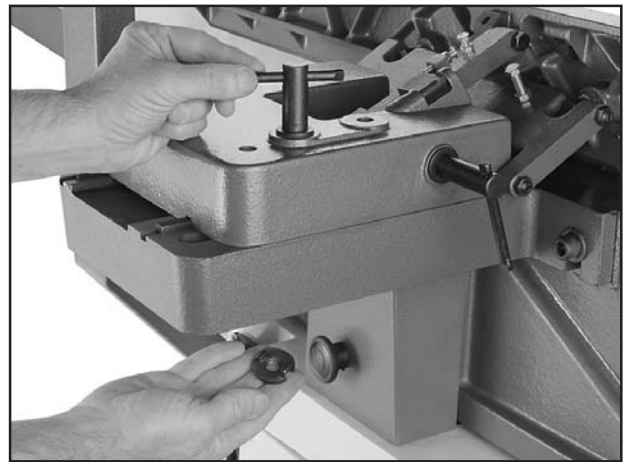

Figure 6. Securing the fence to the jointer table.
3. Lock the fence to the table with the lock handle, washer, and lock nut, as shown in **Figure 6**, making sure to keep the tabs on the lock nut facing up during installation.